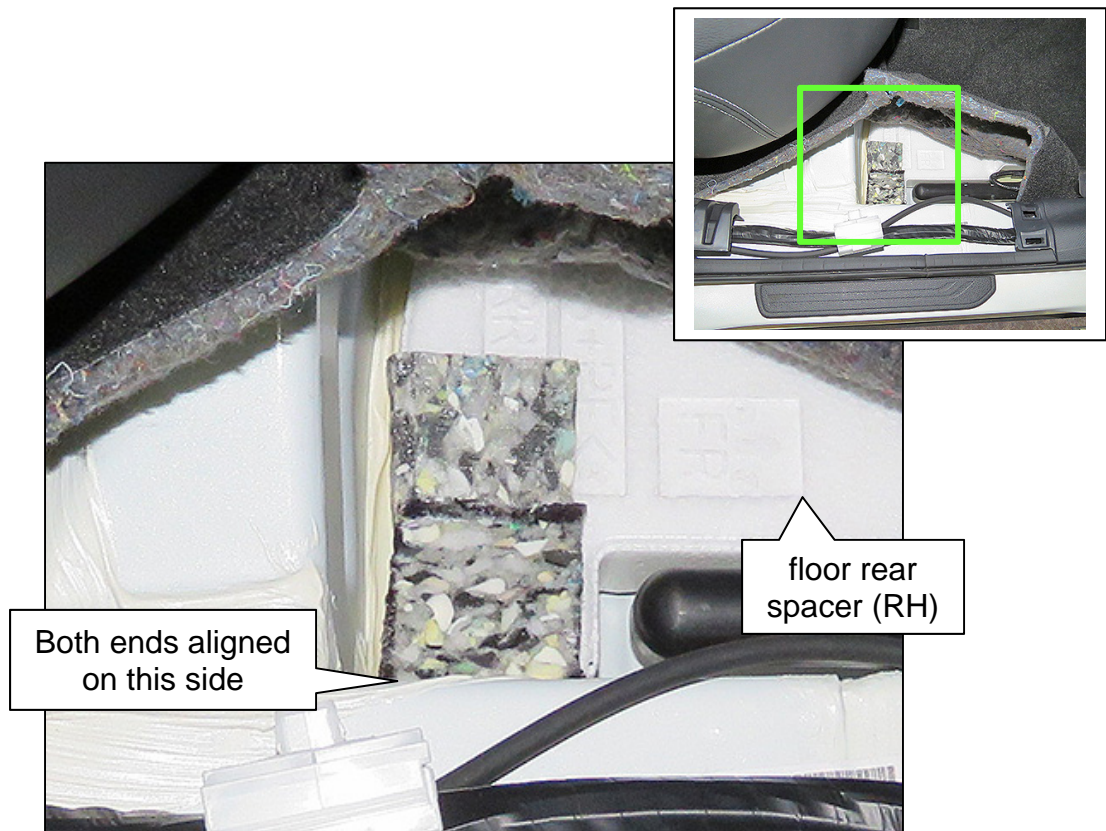

Figure 26
25. Fold back the carpet as shown in Figure 26 to expose the floor rear spacer (RH).
- DO NOT remove the floor rear spacer (RH).
26. Apply a small amount of hot glue to the bottom of the longer piece of foam padding, and then attach it to the floor rear spacer (RH).
- Attach so that the ends of both pieces are closest to the door opening (see Figure 26 for example).